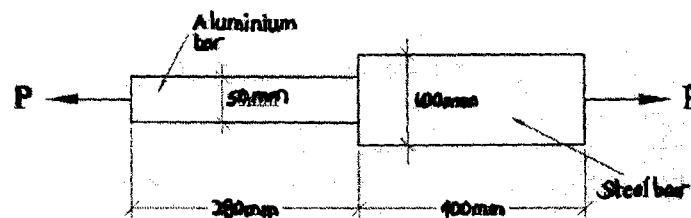

Figure 8/Gambarajah 8
- (ii) Two circular shaped bars are joined and used as a tension member, determine the magnitude of force P which will lengthen the two bars by 0.25 mm ($E_{\text{steel}} = 200 \times 10^6 \text{ KN/m}^2$, $E_{\text{aluminum}} = 70 \times 10^6 \text{ KN/m}^2$. (see Figure 8)